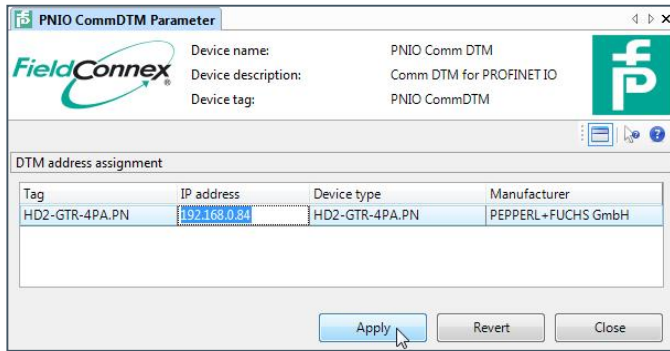

Figure 84: Keying the gateway IP address to the PROFINET IO interface
- 7) Key in the gateway IP address, then select **Apply**, then **Close** (see: Figure 84: Keying the gateway IP address to the PROFINET IO interface).